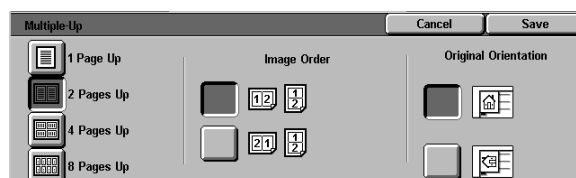
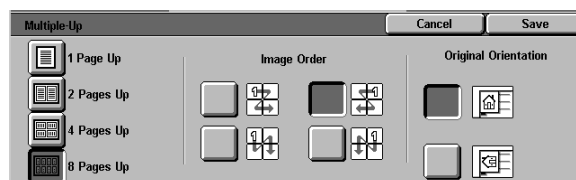

Figure 7: 2 Pages Up detail screen
Figure 8: 4 or 8 Pages Up detail screen
- 2 Touch one of the following icons to display the appropriate detail screen, illustrated in Figure 7 and Figure 8: